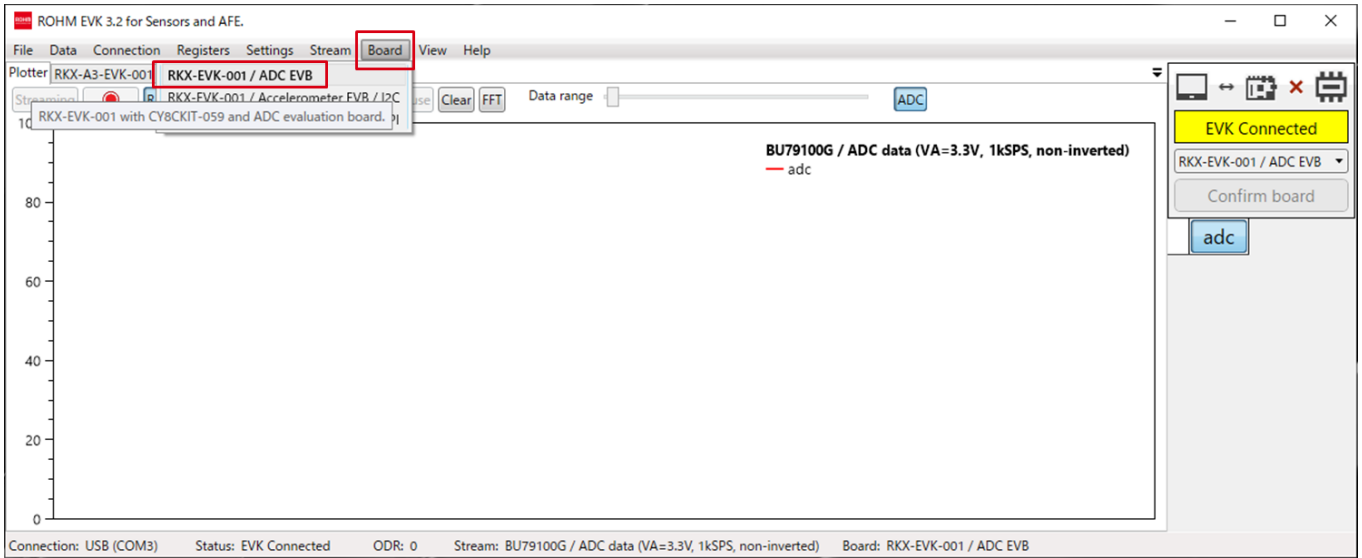

Figure 8. ROHM EVK GUI: "Board" menu
3. Select "RKX-EVK-001 / ADC EVB" from "Board" menu. (Figure 8)